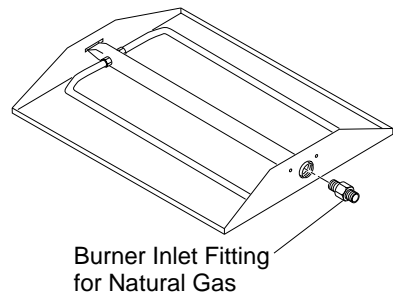
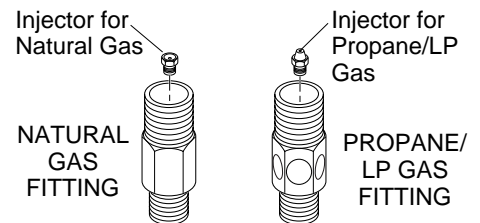

Figure 14 - Remove Burner Inlet Fitting
Figure 15 - Burner Inlet Fittings with Injectors
1. Remove the burner inlet fitting from the burner pan assembly (see Figure 14). DO NOT remove the orifice from this fitting. The propane/LP burner inlet fitting is included in the hardware kit (see Figure 15).